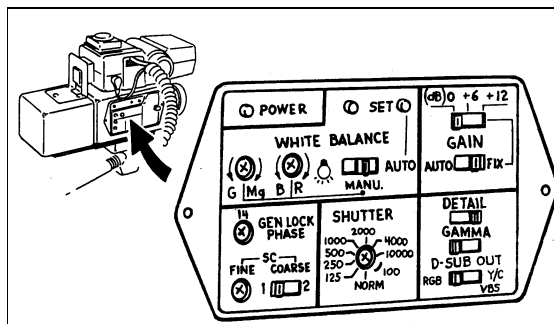

Figure 2-27. Camera Switches
9. Confirm that the camera switches and dials (Figure 2-27) are set as follows. (If necessary, remove the plastic cover, set the switches and reinstall the cover.)